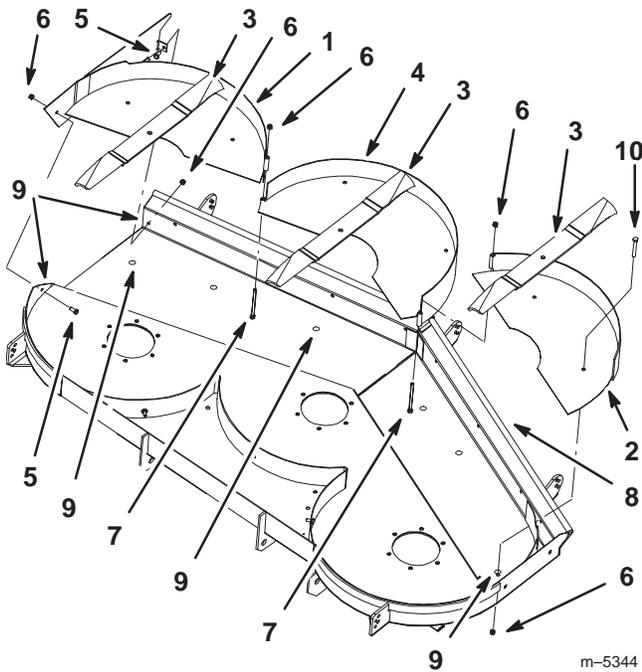

Figure 2
1. To determine where you need to drill holes, place center baffle into deck and against the the front part of the deck (Fig. 2).
2. Install only the center mulching blade (Fig. 2).
**IMPORTANT: The sail part of the blade (i.e., the turned up section) must face the inside of the mower (Fig. 2).**
5. Mark the location for center baffle mounting holes and then remove baffle (Fig. 2).
1. Assemble center baffle to the left and right baffles using 2 bolts (5/16 x 4-1/2 in.) and 2 lock nuts (Fig. 2).
4. Install center baffle to deck with 2 bolts (5/16 x 2-3/4 in.) and 2 lock nuts (5/16 in.) (Fig. 2).
1. Place the left and right baffles, while connected to center baffle, against the front part of the deck (Fig. 2).
2. Install left and right mulching blades after the baffles are in place (Fig. 2).
**IMPORTANT: The sail part of the blades (i.e., the turned up section) must face the inside of the mower (Fig. 2).**
5. Mark the location of the left and right baffle mounting holes (Fig. 2).
**Note:** Make sure to mark and drill the right baffle mounting holes that are on the front and side of the deck (Fig. 2).
7. Install left baffle to deck with 2 bolts (5/16 x 2-3/4 in.) and 2 lock nuts (5/16 in.) (Fig. 2).
8. Install right baffle to deck with bolts (5/16 x 2-3/4 in.) and 2 lock nuts (5/16 in.) (Fig. 2).
9. Install right baffle to front and side of the deck with 2 bolts (5/16 x 3/4 in.) and 2 lock nuts (5/16 in.) (Fig. 2).